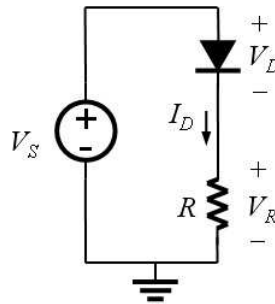

Figure 5: Circuit for diode  $i$ - $v$  measurements.
- (A) Construct the circuit shown in Fig. 5. You have at your disposal your DC power supply, and a variable resistance  $R$  (we recommend you use values of  $100\text{k}\Omega$ ,  $27\text{k}\Omega$ ,  $8.2\text{k}\Omega$ ,  $4.7\text{k}\Omega$ ,  $2.2\text{k}\Omega$ , and  $820\Omega$  — this is more straightforward than using a pot and measuring its value every time you turn the knob).
- (B) Given this circuit, come up with a scheme to measure the diode’s  $i$ - $v$  curve. Think about these questions to help guide you:
- For a given setting of  $V_S$  and  $R$  in Figure 5, how can you calculate the current and voltage through the diode by making a single measurement?